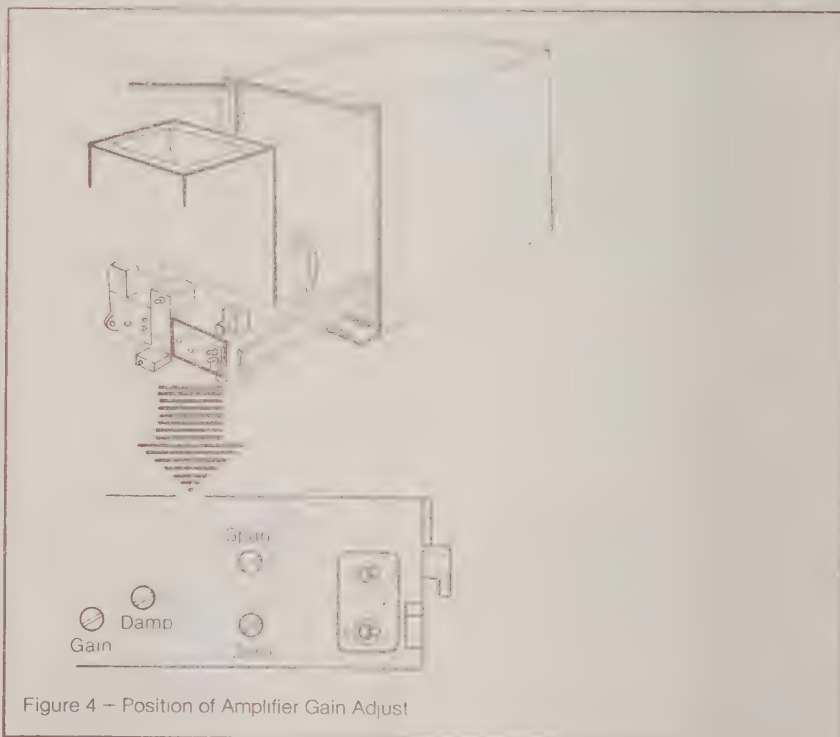

Figure 4 — Position of Amplifier Gain Adjust
1. Set the amplifier gain adjust in full clockwise position — see Figure 4. Supply an input signal to the recorder and adjust amplifier gain until pointer stops oscillating.